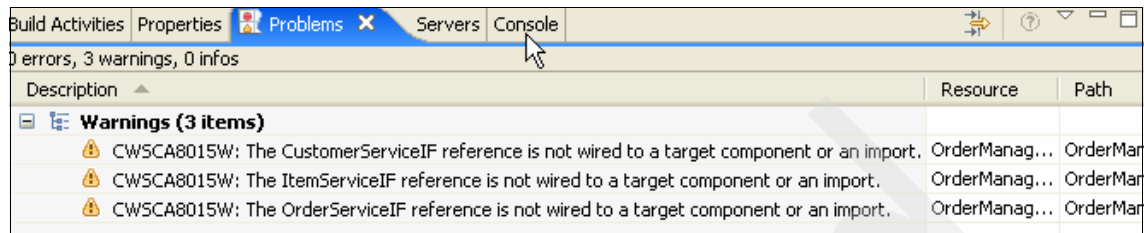

Figure 3-45 Warnings in the Problems view
4. Switch to the Problems view, and notice the warnings, as shown in Figure 3-45.